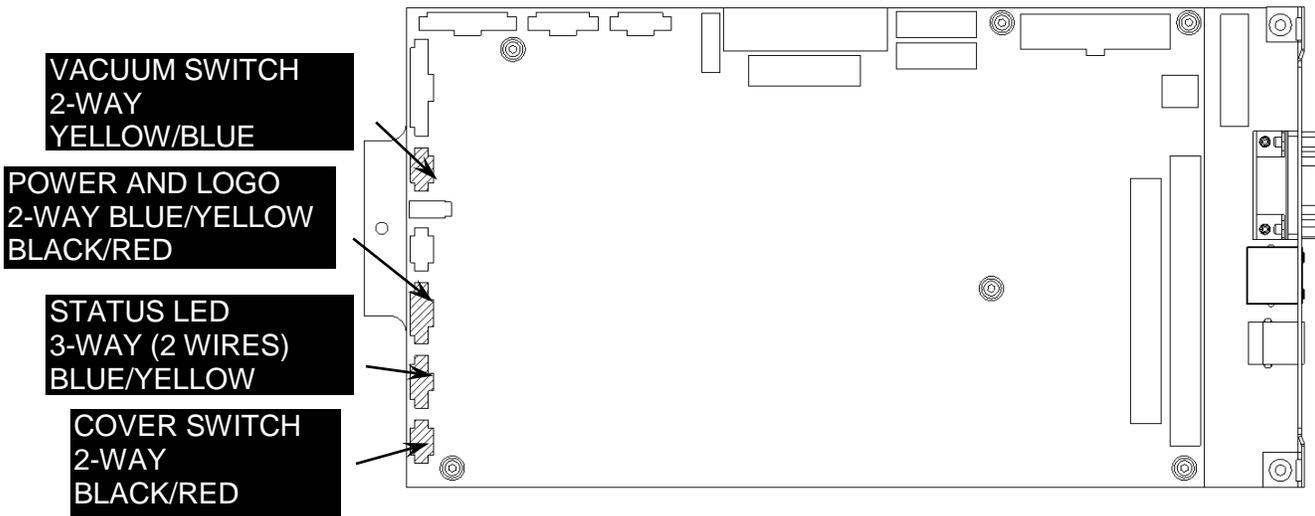

Figure 14-12 Cable Connections, Part 5
5. Plug in the connectors from the Switch Harness (Figure 14-12).